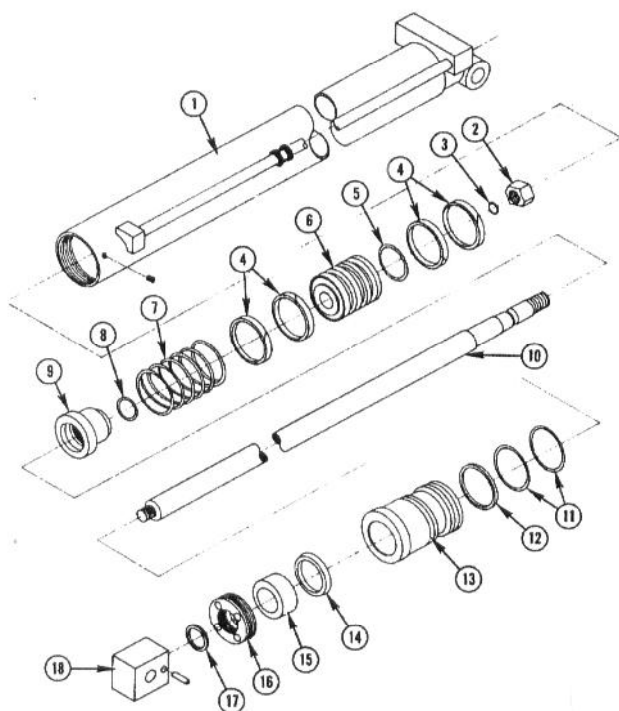

Fig. 75 — Identification of Cylinder Parts — for Dipperstick Extension
See Fig. 75.
4. Reassemble cylinder as follows ... see Fig. 75:
f. Install new back-up ring then new "O"-rings into outer groove of "inner bearing" (i.e.: gland ... see No. 13, Fig. 75).